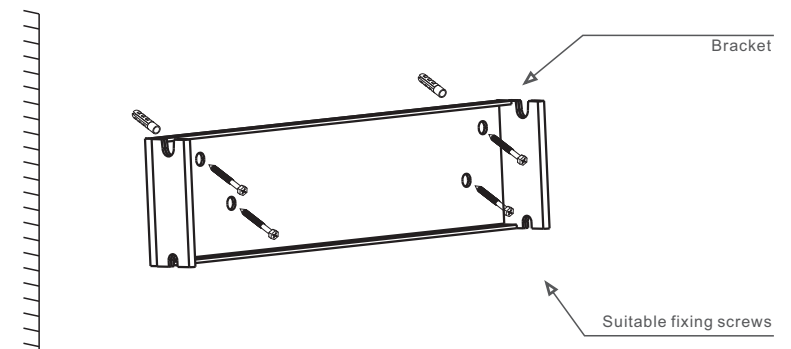
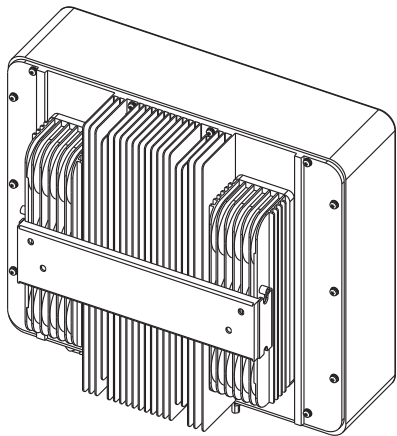

Figure 5.4 Inverter wall mounting
Figure 5.5 Install the inverter
Refer to figure 5.4 and figure 5.5. Inverter shall be mounted vertically. The steps to mount the inverter are listed below.
1. Refer to Figure 5.4, the holes for expansion bolt based on the hole diameter of bracket (ST6.3*60 cross recessed hexagon head tapping screws, HJ0108 10*50mm fished expandable tubular), using the percussion drilling with the 10mm drill need to stay vertically on the wall. And the drill hole must be vertically on the wall. And all drill holes' depth is 60mm.
2. Make sure the bracket is horizontal. And the mounting holes (in Figure 5.4) are marked correctly. Drill the holes into wall at your marks.